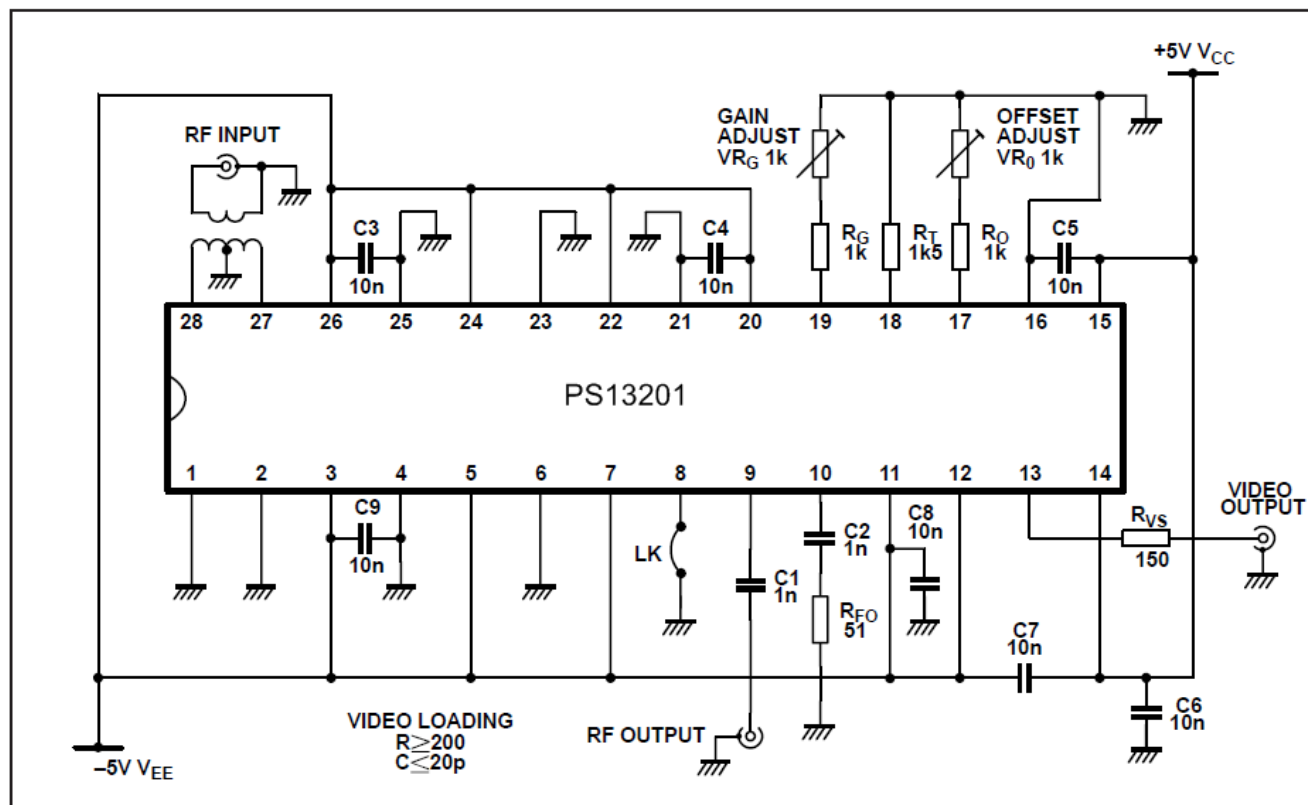
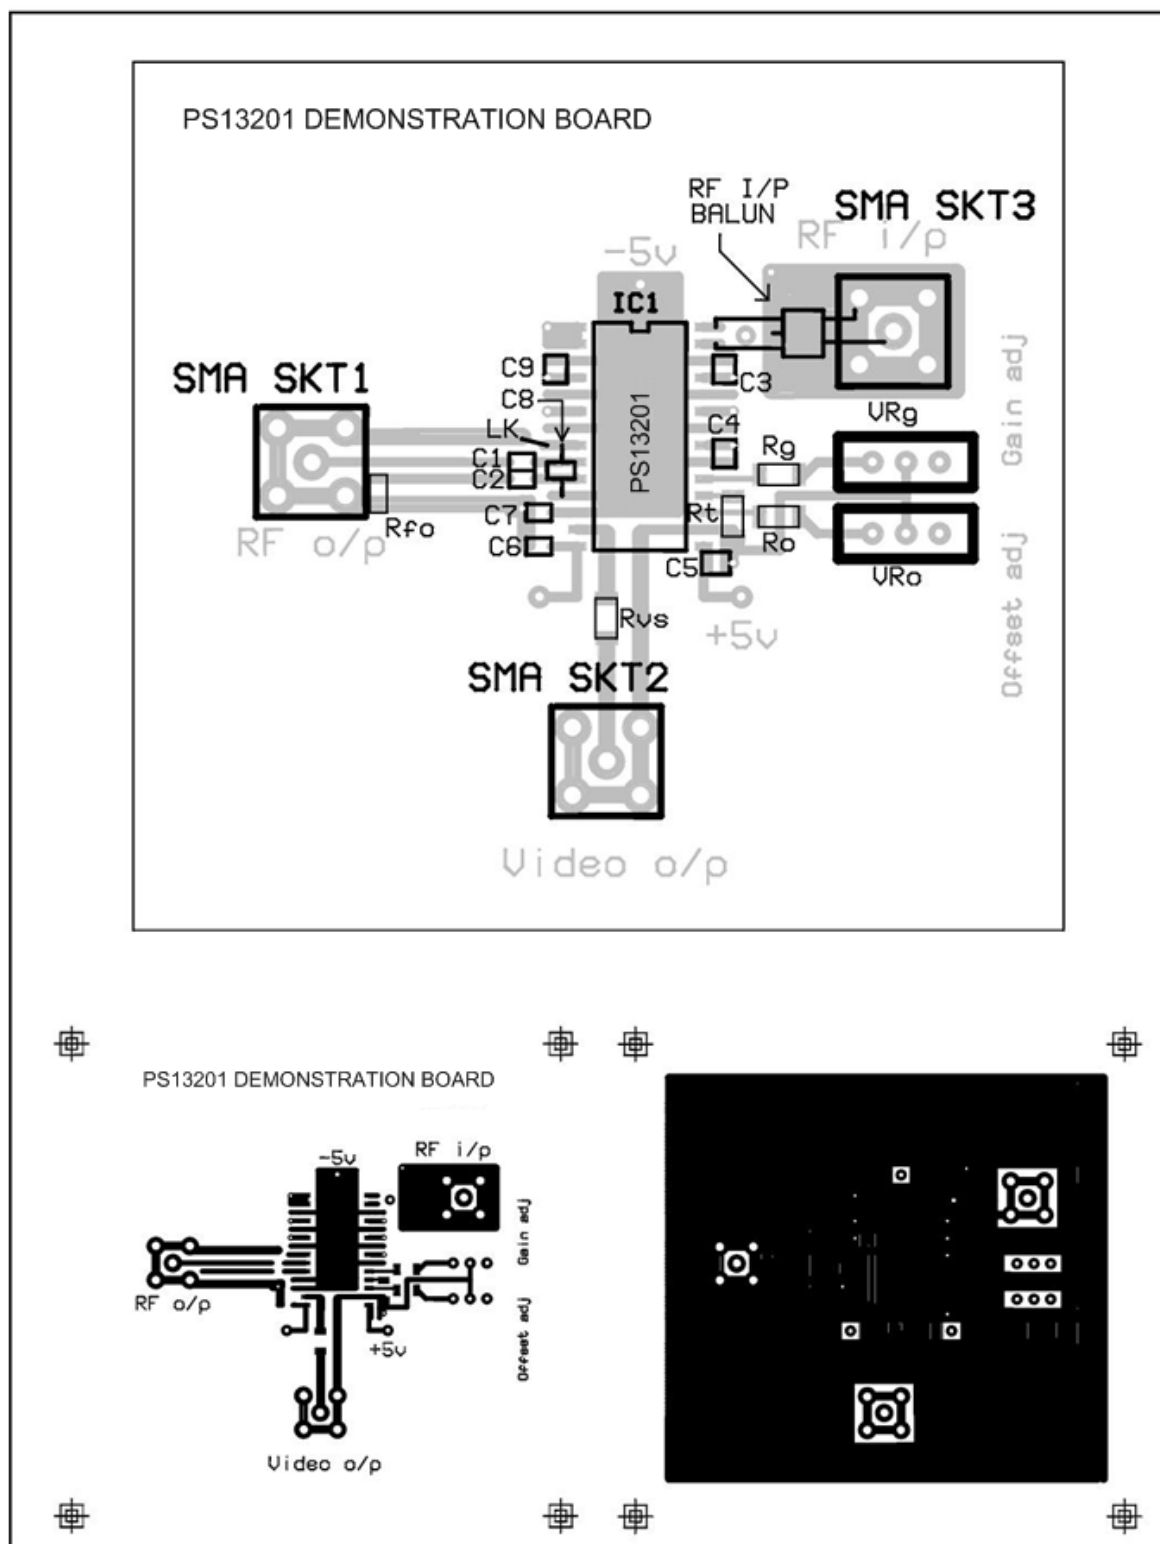
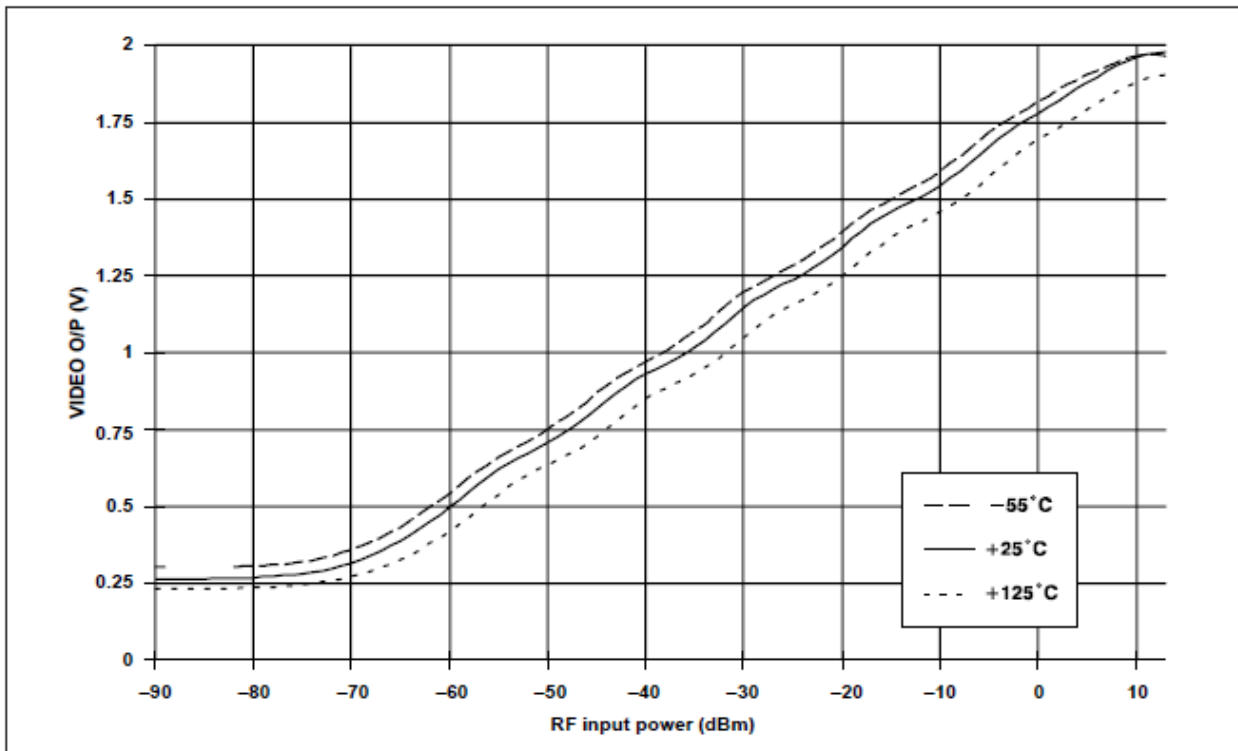
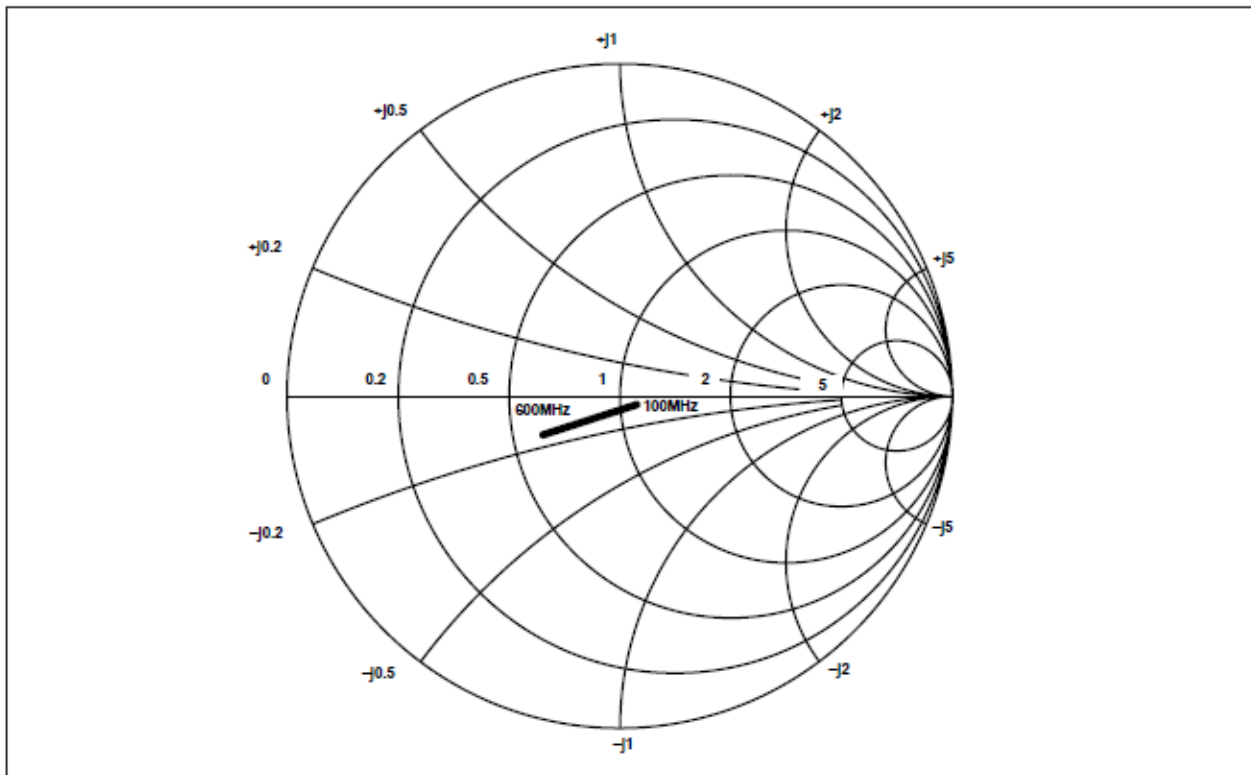

Fig. 10 PS13201 demonstration board circuit design
Fig. 11 Demonstration Circuit PCB showing component positions
Fig.12 Video O/P vs CW input level at 325MHz across temperature ($V_{CC} = +5.0V$, $V_{EE} = -5.0V$)
Fig.23 Typical input impedance normalised to 50Ω - 20dBm I/P level
The PCB layout for a "PS13201 DEMONSTRATION BOARD" in Fig. 11 has proved reliably stable. The PCB is a double layer Fibre epoxy board which uses SMDs where possible. A circuit diagram for the Demonstration PCB appears in Fig. 10.
4. The PCB is configured to accept a small surface mounting DC isolating BALUN transformer (e.g VANGUARD VE43666, available from Vanguard Electronics Company Inc, 1480 West 178th St. GARDENA, C.A. 90248, U.S.A. Tel:- U.S.A. (213) 323 – 4100) to couple a signal into the RF input connections (pins 27 and 28). It is NOT recommended to attempt operating the PS13201 with the RF Output Buffer enabled, WITHOUT using an input BALUN, although it may be possible, provided the input source impedance to both pins 27 and 28 remains balanced. The centre tap of the secondary winding of the transformer should be soldered to the small ground plane on the upper side of the PCB.
6. The RF Output Buffer can be enabled by soldering a link (LK) between pin 8 of the PS13201 and the adjacent guard track around the RF Output lines. Similarly, the buffer can be disabled by removing the same link. When the buffer is disabled, the following components can be omitted:-
11. The plots in Fig. 12 to fig. 23 are typical of the performance of PS13201 devices used with the PCB layout detailed in Fig.11.